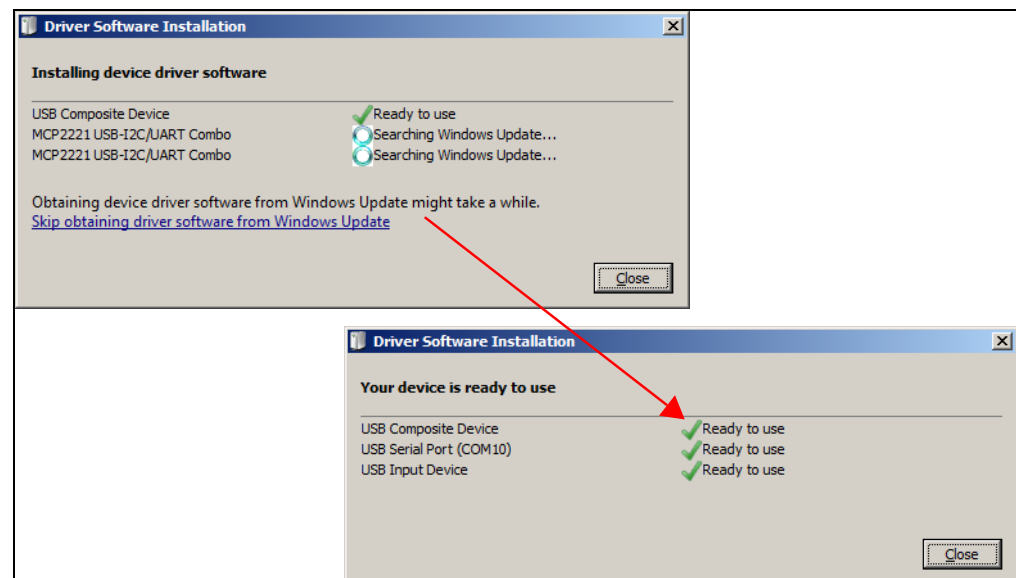

FIGURE 2-1: Driver Software Installation Window.
5. If the USB Bridge driver has not previously been installed on the selected USB port, the Driver Software Installation window pops up, prompting for the driver install (see Figure 2-1).